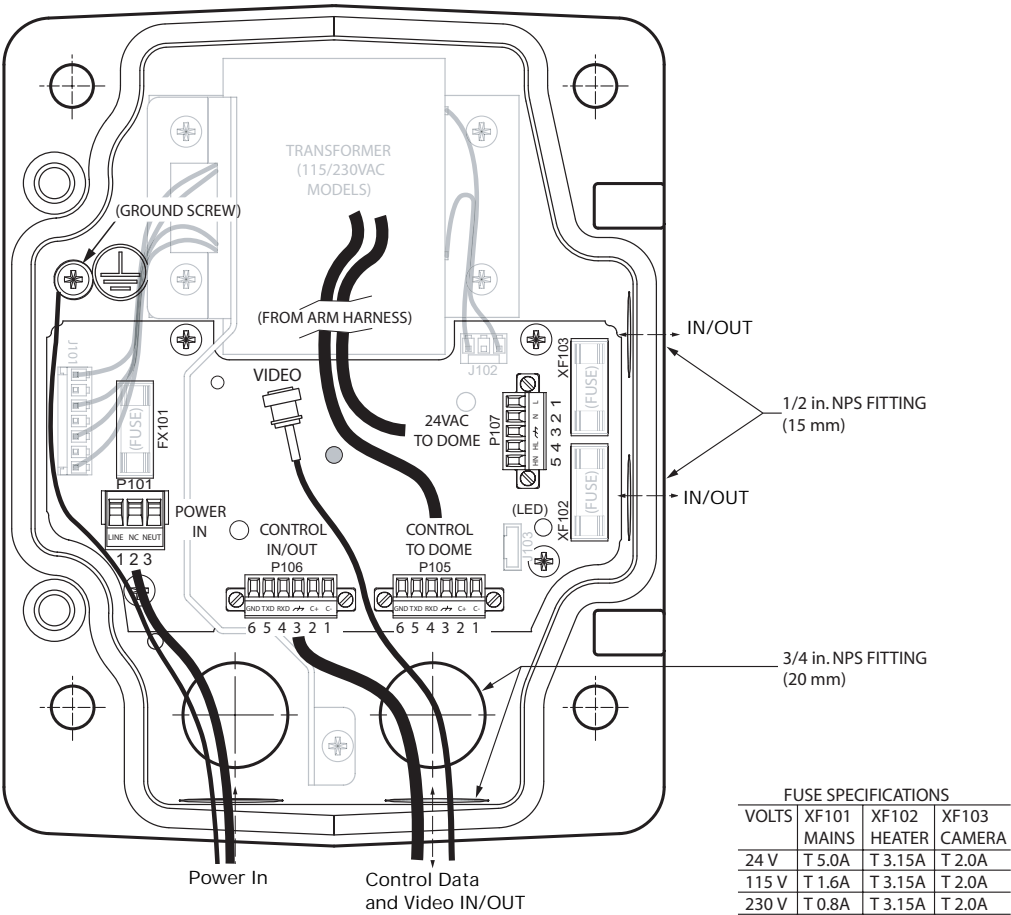

Fig. 1.5 Pendant arm power supply box
3. Cut and trim all wires with sufficient slack to reach their connector terminals in the box, but not so long as to be pinched by or to obstruct closing the Pendant Arm. See *Figure 1.5* on page 9 for the connector locations.
Refer to *Figure 1.5* on page 9 to locate the various connectors in the power supply box and make the following connections detailed below.